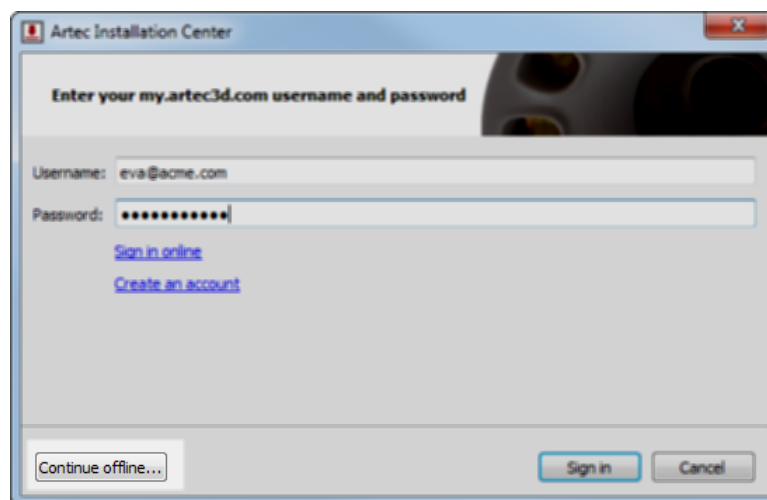

Figure 21: Artec Installation Center authentication dialog
2. During installation the login/password dialog will be displayed as *Figure 21* shows. Click *Continue offline*